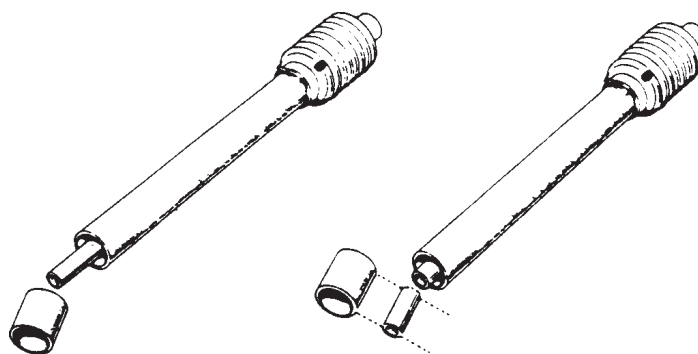

Figure 8
3. Cut off the shield at the second mark. Now cut off the same amount of the shaft as removed from the shield and deburr the end of the shaft. (See **Figure 8**.)